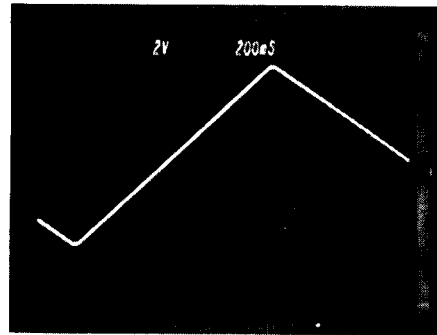

Figure 4-4. A2 Sweep Ramp, .1 s Sweep
- g. Verify that the oscilloscope displays a 1  $\pm$ 0.2 second ramp, as shown in Figure 4-4.